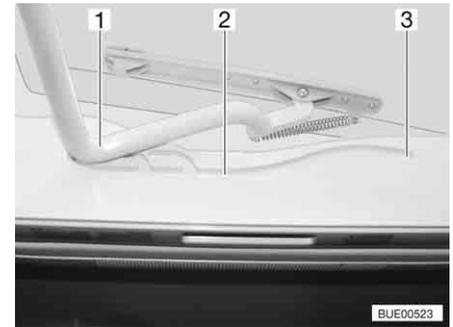

Fig. 126 Heki skylight, guide
- Pull the bar (Fig. 126,1) in the guides (Fig. 126,2) to the rearmost position (Fig. 126,3).
- Use both hands to push the bar (Fig. 126,1) slightly upwards.
- Pull the bar in the guides (Fig. 126,2) to the desired position.